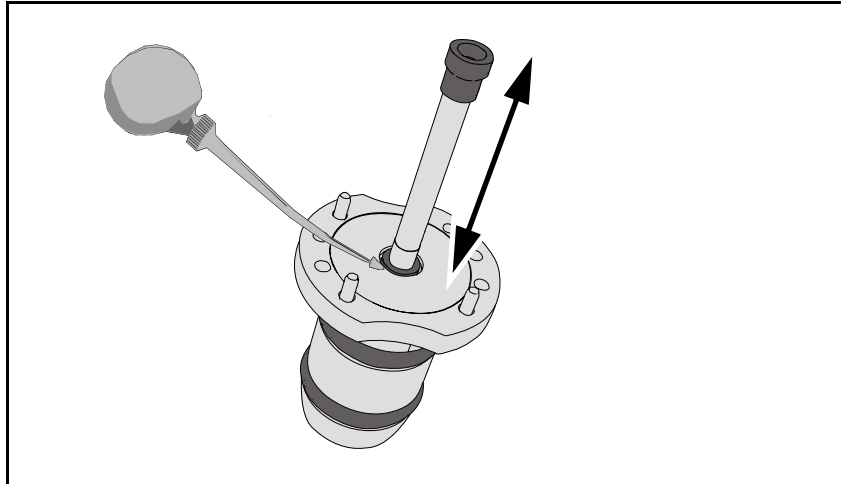

Figure 16-2. Spring loaded tools lubrication.
2. Lubricate metal colored spring-loaded tools with a drop of Shell Tellus Oil 32, see Figure 16-2.